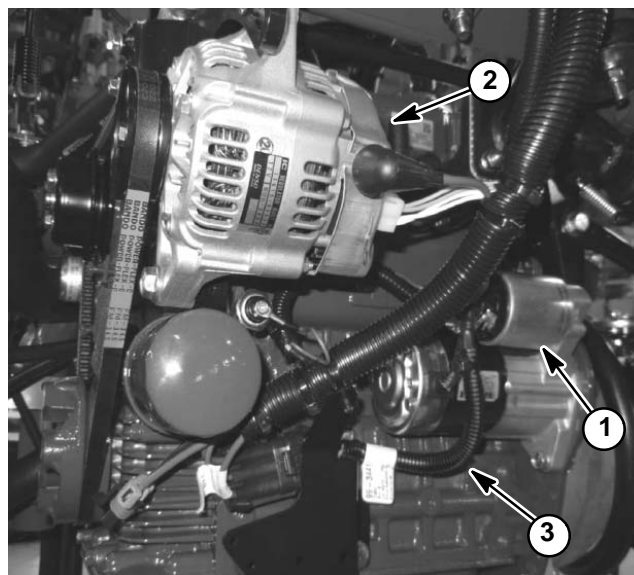

Figure 38
Greensmaster 3400 machines (diesel engine) use all three (3) of the harness fusible links. The fusible link harness on Greensmaster 3400 machines is connected to the starter B+ terminal (Fig. 38). Greensmaster 3400 machines use an additional fusible link that is included in the wire harness and connects the starter G terminal to the engine run solenoid pull coil.